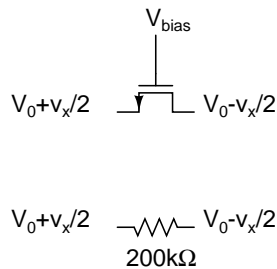

Figure 1:
- (For this problem, The minimum usable dimension is $0.3\ \mu\text{m}$.) A MOSFET is used as a $200\text{ k}\Omega$ resistor (Fig. 1) $V_0 = 0.5\text{ V}$ and v_x is restricted to 0.25 V . The nonlinear part of the current (Difference between the actual current in the resistor and its linear approximation) in the resistor should be at most 5%.